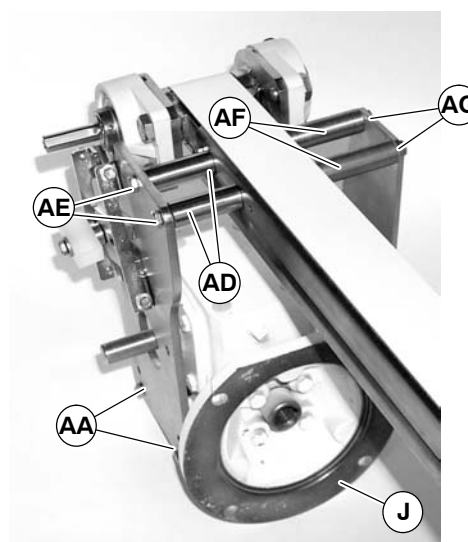

Figure 6
The lengths of spacer tubes (AF of Figure 6) and hex head cap screws (AG) are based on conveyor width. The proper lengths are provided with the drive mounting package.